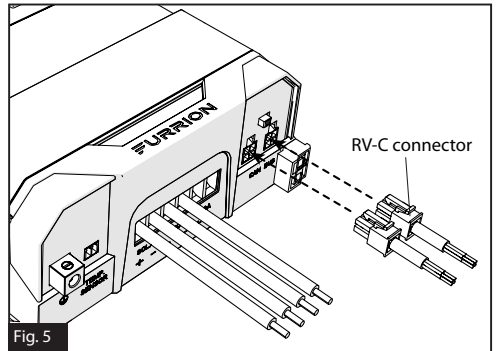

Fig. 5
- Plug the RV-C connector to the MPPT controller (if applicable). (Figure 5)